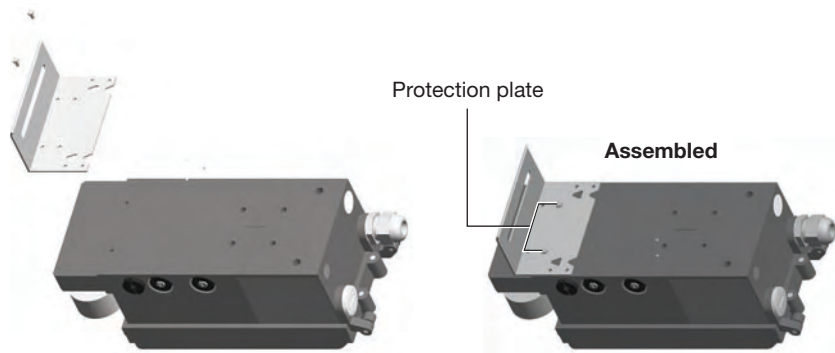

Fig. 11
5.2.5 Locate the protection plate onto the back of the SP200 positioner housing and fix in place (Figure 11).